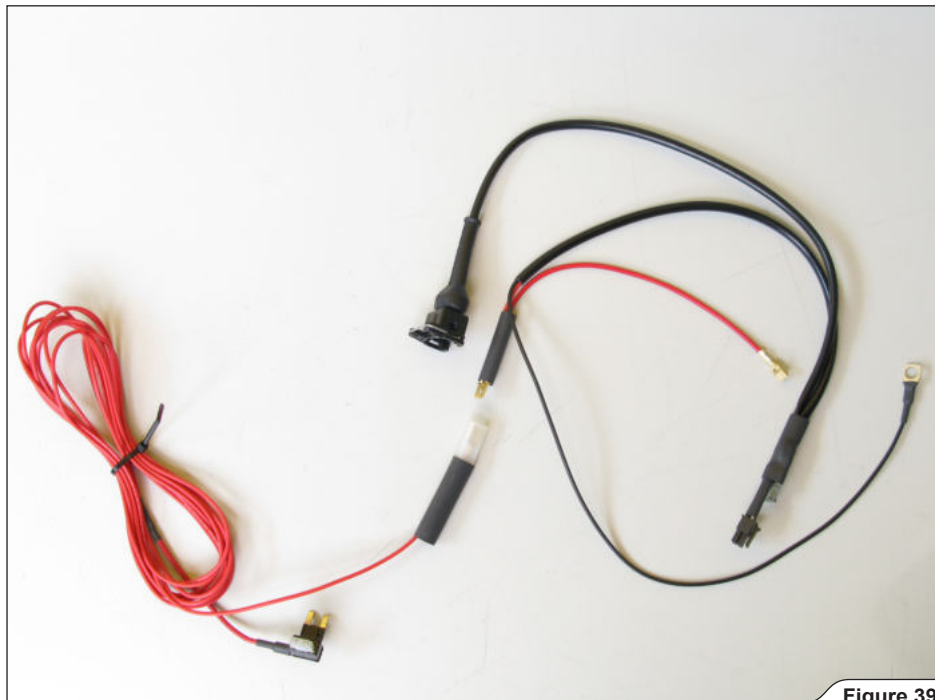

Figure 39
26. **For fuse box powered Wireless only:** transmitter wiring harness (Figure 39).